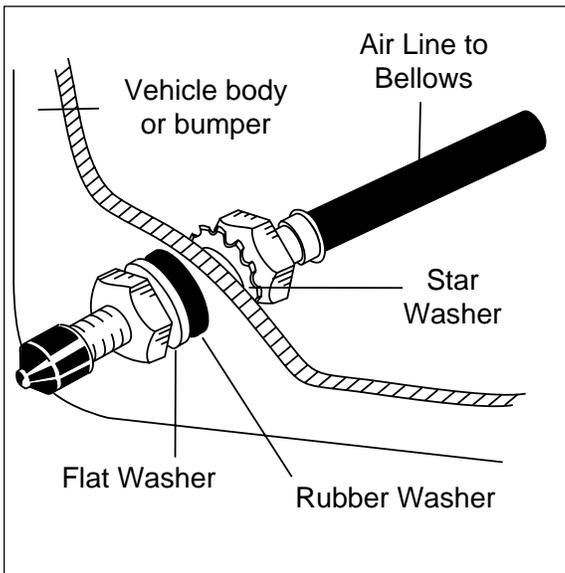

Figure 6
2. Use a standard tube cutter, a razor blade, or very sharp knife to cut the air line. A clean square cut will ensure against leaks. Cut the air line in two equal lengths. Drill  $\frac{5}{16}$ " hole for inflation valve and mount as illustrated. Rubber washer on the outside is for weather seal (Figure 6).